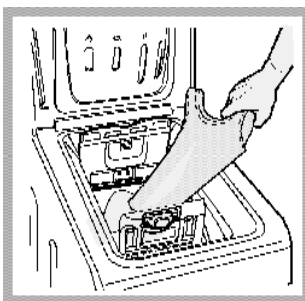

Fig. 3
C) Introducerea rufelor (Fig. 3)